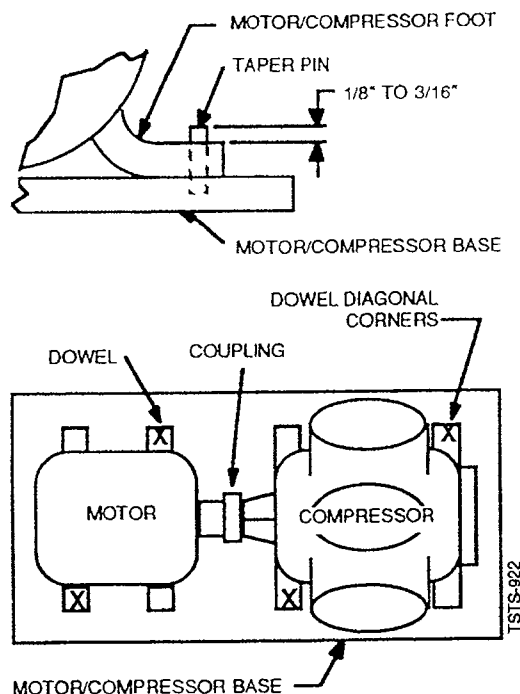

Figure 3-26 Doweling
2. With the compressor still at operating temperature, drill and ream two (2) holes diagonally opposite on both the compressor and motor. Do not ream the holes too deep. Part of the dowel pin should protrude above the compressor or motor foot (see step 4 below). See Figure 3-26.